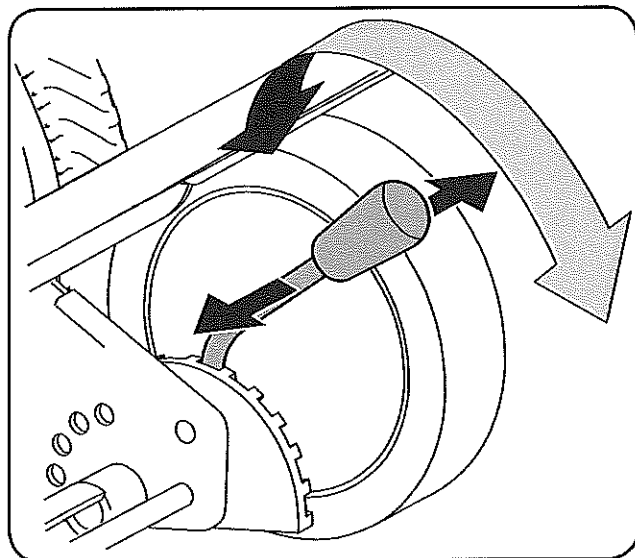

Figure 3-4
1. Move the right-hand height adjustment lever outward and then position it forward (to lower the cutting height) or rearward (to raise the cutting height) before releasing it into the notch for your desired height. See Fig. 3-4.